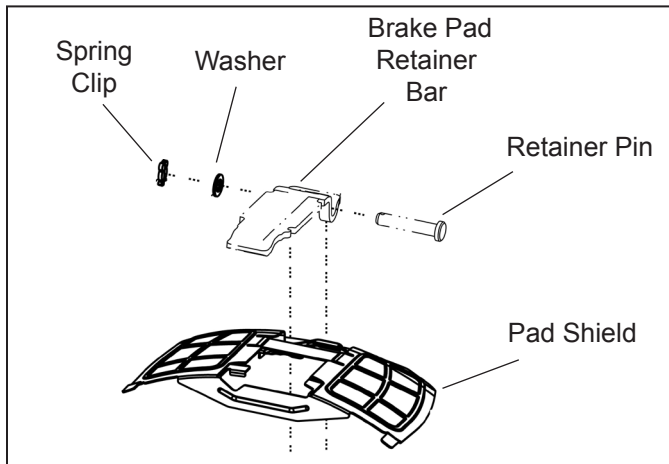

**Figure 4 – Pad Replacement**
1. If the air disc brake is equipped with an electronic wear sensor indicator (See top of Figure 4), remove and retain the cable protection plate and its mounting hardware. Note the position of the sensors in the brake pad channels, and carefully remove them. In most cases it is not necessary to release the cable connector in order to move the sensors away from the pad installation work area. Inspect the wear sensors – replace if damaged or abraded.
2. (See Figure 4). While pressing down against the brake pad retaining bar, remove the spring clip, washer, and retainer pin and brake pad retainer bar.
4. Push the pad retainer bar into the groove of the caliper. Press down on the pad retainer bar, and insert the pad retainer pin, with the pin pointing downwards, where possible. Install the washer and then the spring clip. (See Figure 4).